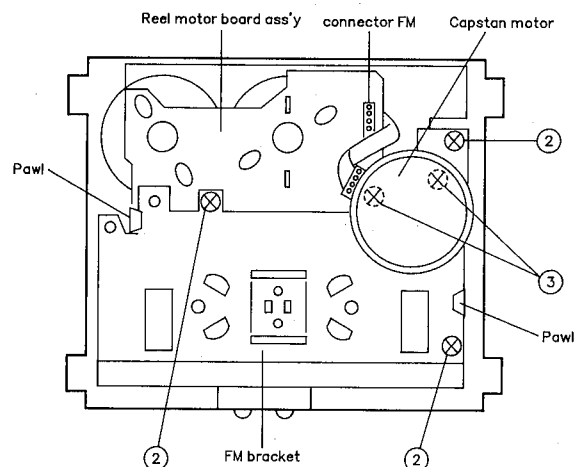

Fig. 2 - 12
4. For reengaging the capstan belt, refer to Fig. 2 - 13.
### ◆Flywheel ass'y (Fig. 2 - 14)